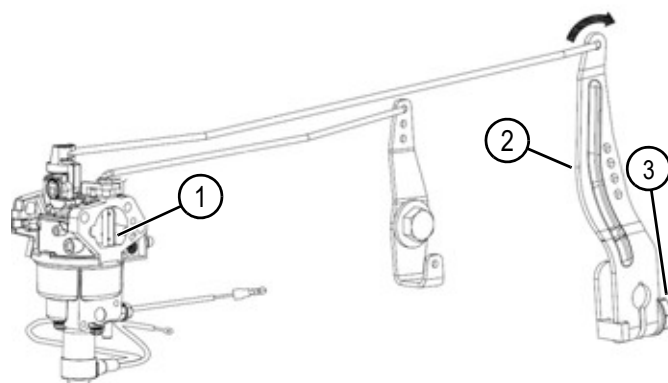

Figure 3-7: Governor Arm
1. See Figure 3-7. Loosen but do not remove the governor arm pinch bolt nut.